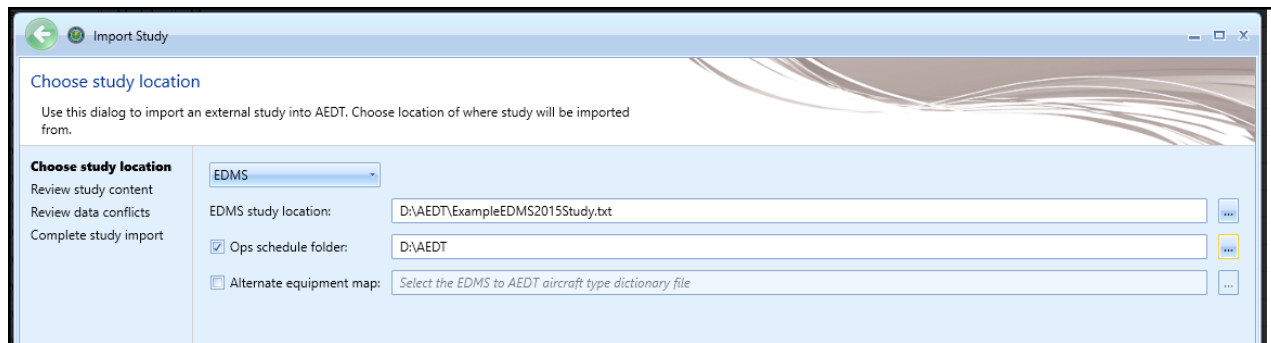

Figure 42. Choose study location
2. Click the *Study* tab and click *Import* to display the *Import Study* dialog (Figure 42).